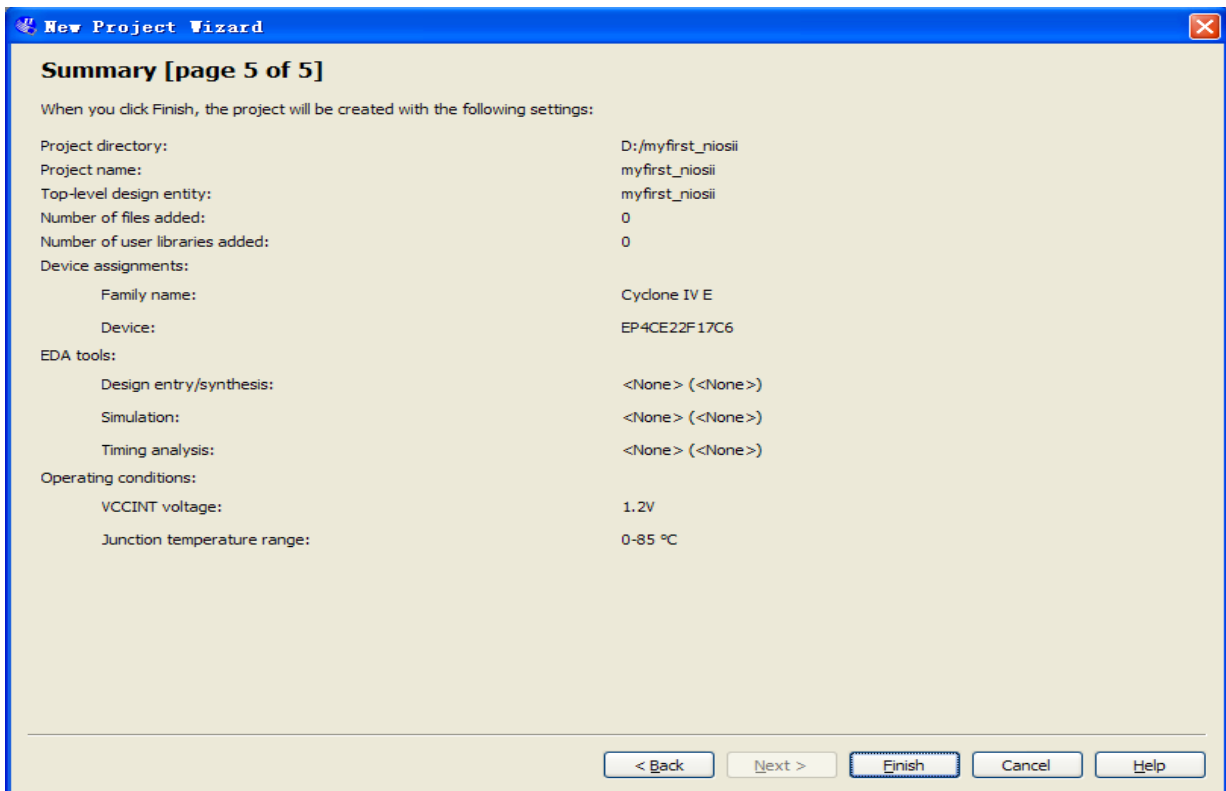
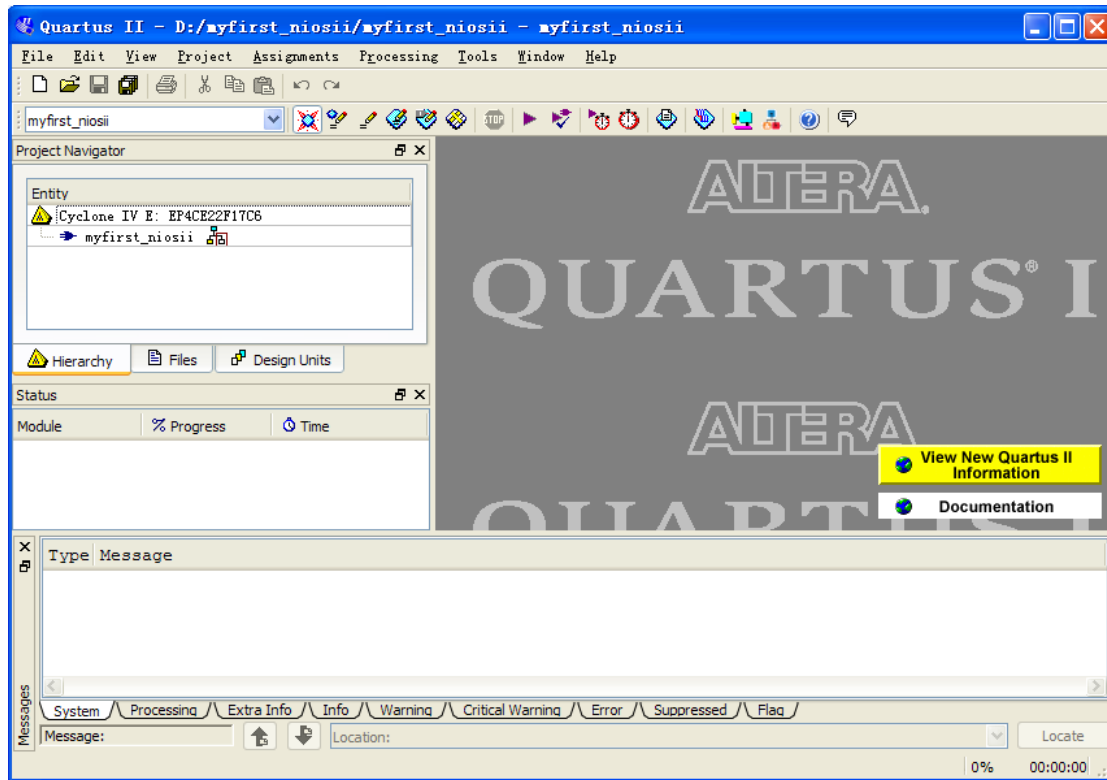

Figure 7-7 New Project Wizard: Summary [page 5 of 5]
Figure 7-8 A New Complete Project
4. Click Next and will see a window as shown in Figure 7-7. Figure 7-7 is a summary about our new project. Click Finish to complete project. Figure 7-8 show a new complete project.